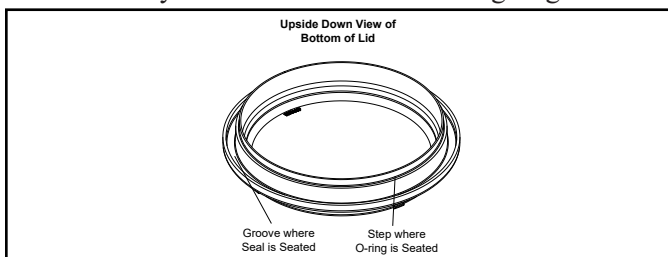

Figure 15. Placement of Blue Pressure Test O-ring
2. Place the blue o-ring on the step located ¼" from the bottom of the lid. See Figure 15.